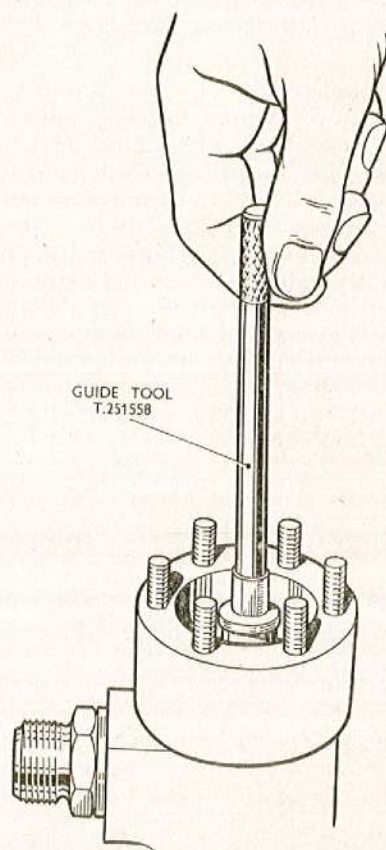

Fig. 3. Using the guide tool
15. Screw in the guide tool T.251558 (*fig. 3*), and ease the spring housing from the distributor body, holding the guide tool down so that the metering piston assembly will not be withdrawn from the distributor body. When the spring housing is free, unscrew the guide tool, taking care to avoid lifting it until it is clear of the spring anchor threads, then remove the tool and lift off the spring housing, leaving the spring and piston assembly in the distributor body.